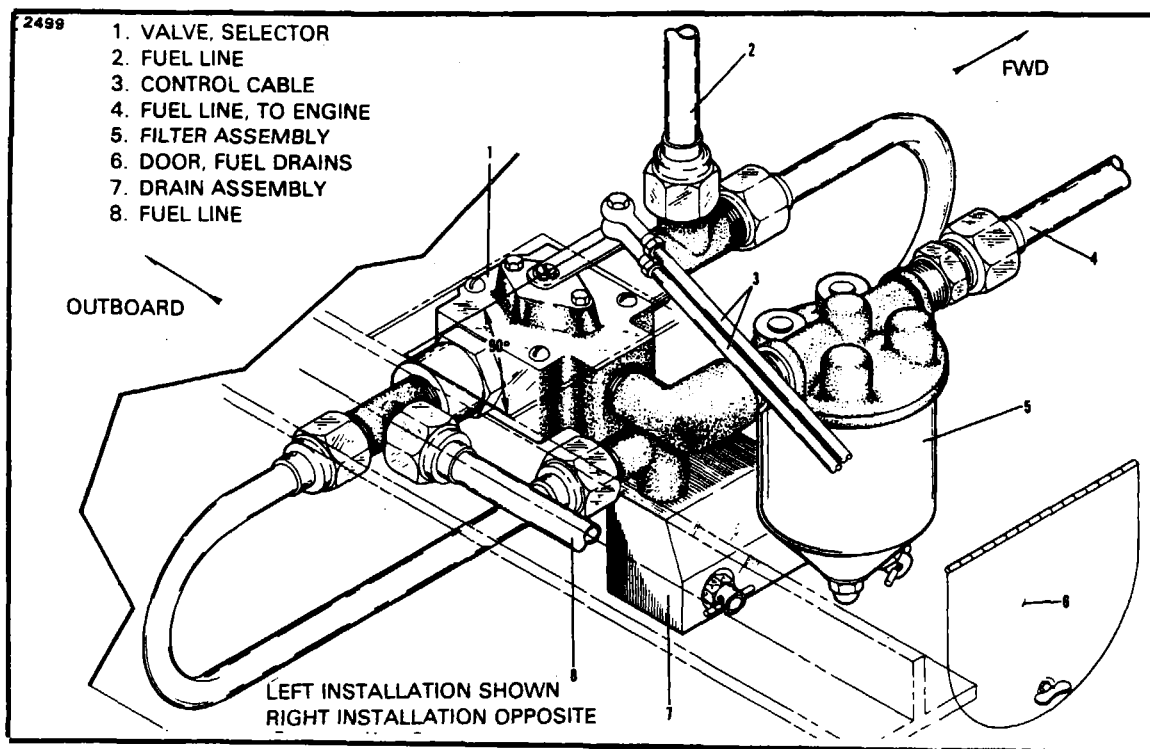

Figure 9-19. Fuel Selector Valve Installation
9-38. REMOVAL OF FUEL SELECTOR VALVE. (Refer to Figure 9-19.)
9-40. INSTALLATION OF FUEL SELECTOR VALVE. (Refer to Figure 9-19.)
- b. Set the fuel selector valve in the OFF position (with the lever arm at 90 degrees to the wing spar as shown in Figure 9-19.)